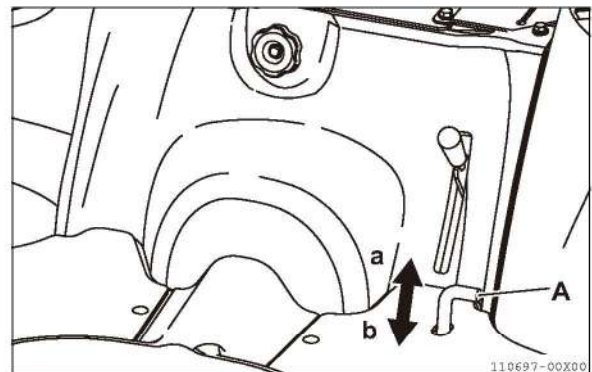

Fig 5-38
### (27) Differential lock pedal (SA424) (Fig 5-38)